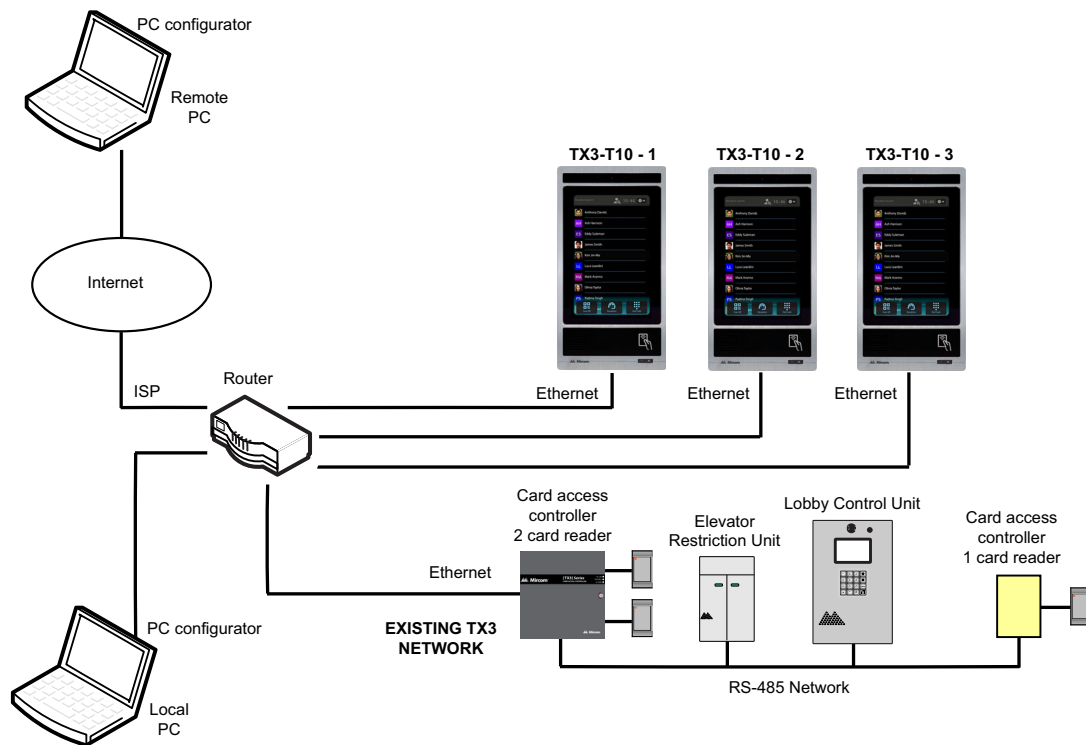

Figure 2. TX3-T10 on an IP network
- Figure 2. TX3-T10 on an IP network 7
The TX3-T10 is compatible with existing TX3 networks and can be connected to the TX3 network as shown in figure 2. The TX3-T10 is configured with the TX3 Configurator, which supports both the TX3-T10 and existing TX3 devices.